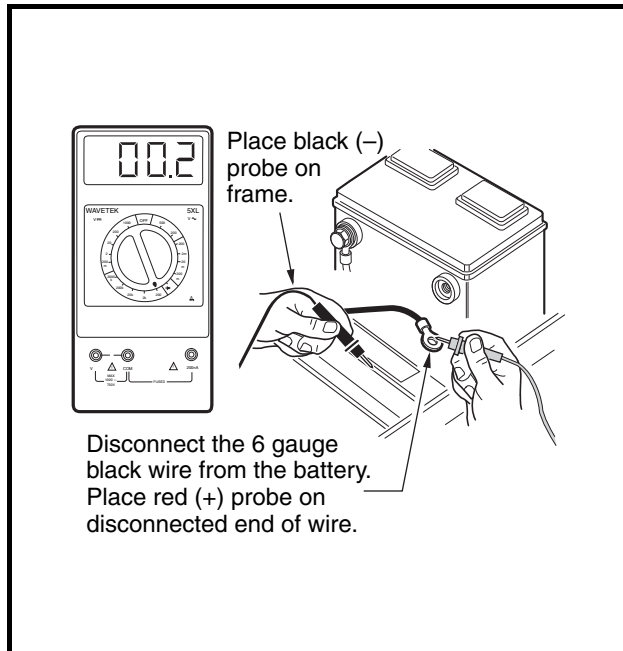

Figure 11-10 Battery Ground Cable Test
- 6.2. Set the multimeter to 200 ohms. Place the red (+) probe on the unconnected end of the 6-gauge black wire, and place the black (-) probe on the vehicle frame (**Figure 11-10, Page 11-15**). The reading should be continuity. If the reading is incorrect, check that terminal connections are clean and tight. If the connections are good and the reading is incorrect, repair or replace the wire.